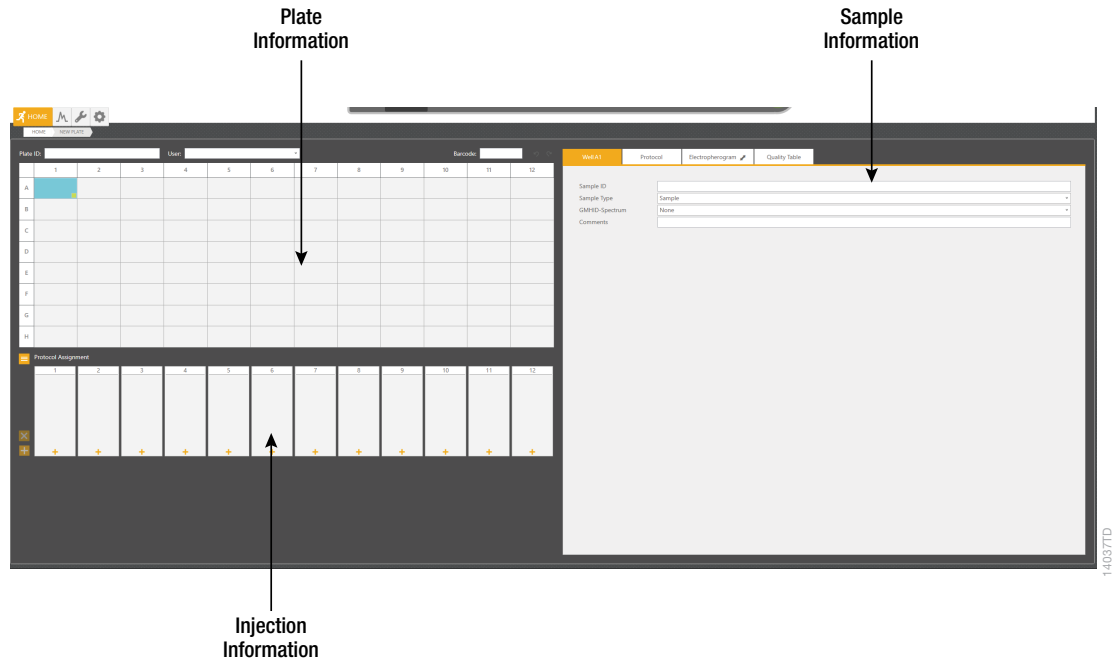

Figure 4. 'Plate' screen.
1. Select **New Plate** from the 'Home' screen. This will open a blank 'Plate' screen that is divided into three sections: Plate Information, Sample Information and Injection Information (Figure 4).
Alternatively, enter Sample IDs in the 'Sample ID' field of the 'Sample Information' section (Figure 4).